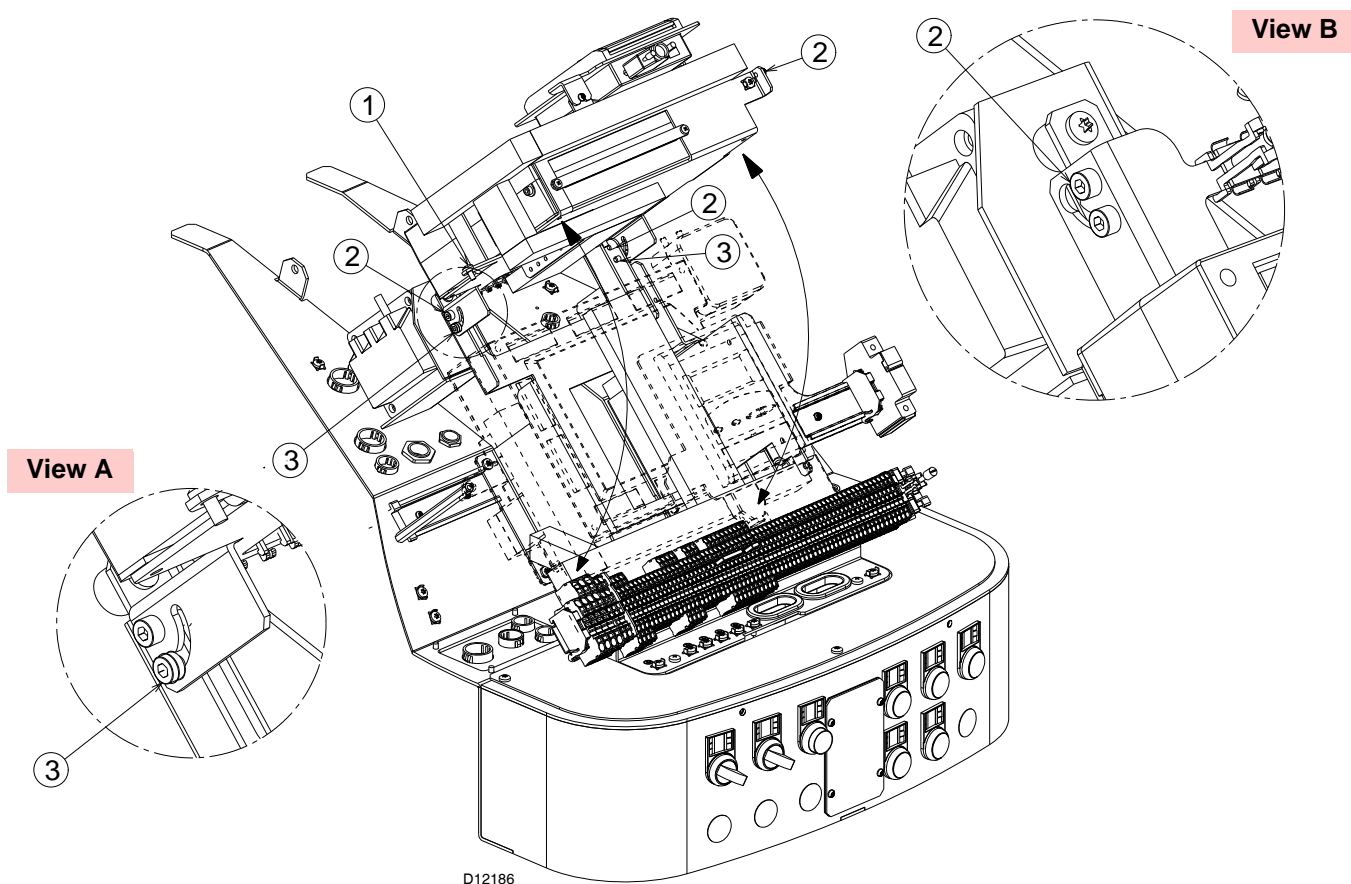

Fig. 41
- unscrew completely the screw 1)(Fig. 41);